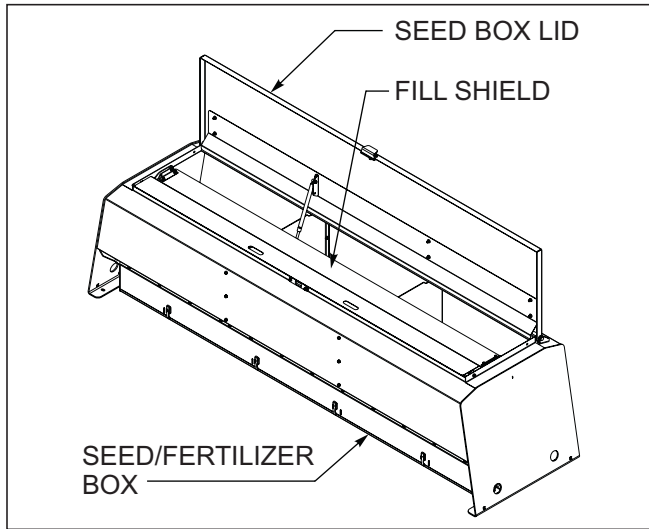

Figure 4-20: Fill Shield in the Closed Position
- When using both seed and dry fertilizer, fill the seed box keeping fill shield in closed position over fertilizer box **See Figure 4-20.**